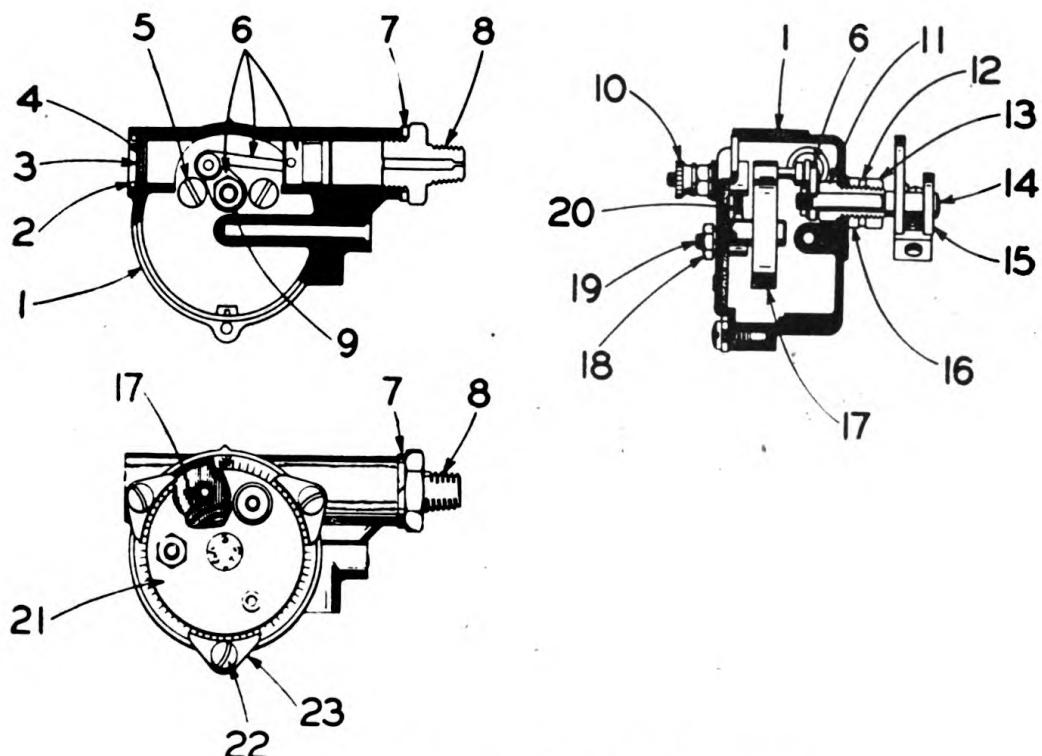

Figure 5.—Automatic choke diagram
(2) The vacuum piston, link and lever assembly, 6, figure 5, opens the choke valve when the engine begins to fire. This is accomplished by means of a rod hook-up from a lever on the automatic choke control unit to a choke lever attached to the choke valve-stem of the carburetor unit.
b. Functioning.—(1) When the engine ignition is turned off and the engine allowed to stand, the heating coil, 20, figure 5, in the thermostat assembly, 21, figure 5, cools, since its source of heat derived from the same current source as that which supplies the ignition, is no longer present.
(2) As the heating coil cools, the thermostat spring, 17, figure 5, also cools and gradually rotates the choke lever, 15, figure 5, closing the choke valve in the carburetor. The automatic choke control and choke valve remain in this position while the engine is not in operation, and also during the cranking period.
(3) The thermostat assembly, 21, figure 5, is directly connected at the hot wire post, 10, figure 5, by a wire to the ignition switch of the engine. When the ignition switch is turned on, the thermostat heating coil, 20, figure 5, is heated by the passage of current through it.
(4) When the engine is started, a vacuum is created in the manifold. The automatic choke unit, connected by means of a tube from the vacuum line union, 8, figure 5, to the intake manifold, is now subjected to the manifold vacuum which actuates the vacuum piston, link and lever assembly, 6, figure 5. As the heating coil, 20, figure 5, heats up, with the closing of the ignition switch, the thermostat spring, 17, figure 5, also tends to heat and lose its tension. This enables the vacuum piston, through its link and lever assembly, to pull in a direction opposite to the spring tension and actuate the choke lever, 15, figure 5, so as to open the choke and permit normal operation of the engine.
10. VOLTAGE REGULATOR.—*a. General.*—(1) The voltage regulator is an instrument which performs the functions of an auto-
16. AUTOMATIC CHOKE.—*a.* The automatic choke thermostat assembly, 21, figure 5, is preadjusted and under ordinary circumstances it will give many months of satisfactory service. The heating elements, 20, figure 5, have been designed to furnish sufficient heat to provide the correct amount of thermostat tension for choking. Should it become necessary to replace the thermostat unit, the whole assembly should be renewed since the thermostat spring, 17, figure 5, is included in the thermostat assembly as a single unit and replacement of the thermostat spring alone is not recommended.
b. Thermostat setting.—When replacing the thermostat unit, the loop of the thermostat spring must be placed over the pin of the vacuum piston, link and lever assembly, 6, figure 5. (THIS OPERATION IS VERY IMPORTANT, SINCE IT IS NECESSARY THAT THE LOOP OF THE THERMOSTAT BE INSTALLED PROPERLY IN RELATION TO THE PIN OF THE VACUUM